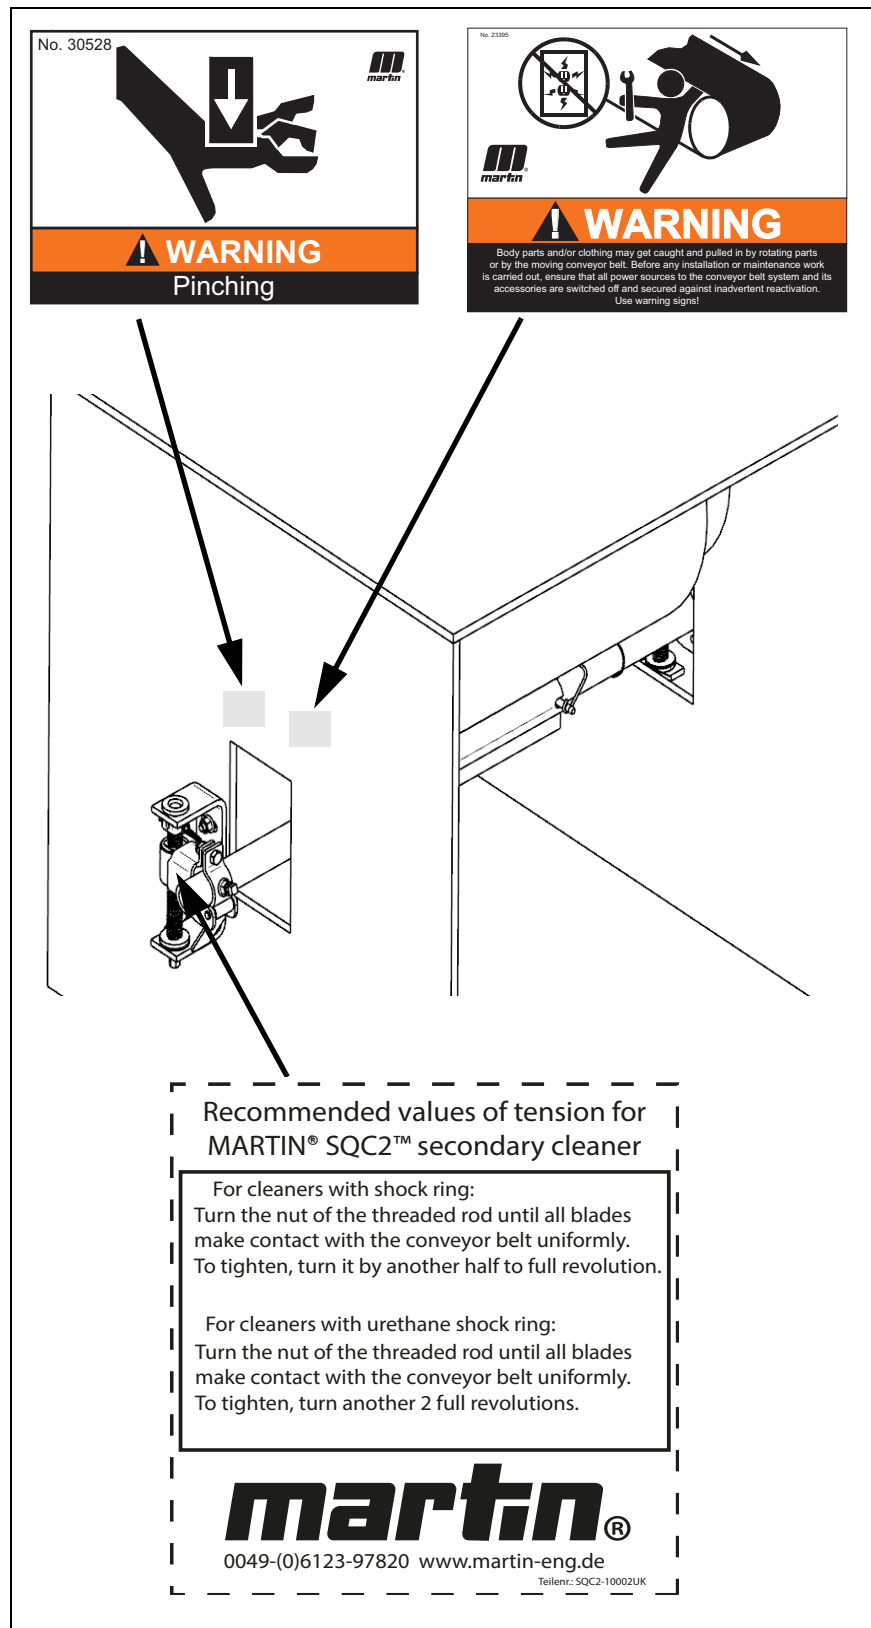

Fig. 27:
1. Thoroughly clean the external chute wall on the operator side above the tensioner. Affix Conveyor Products Warning Labels (Part No. 23395) on the chute wall where they can be seen by the system operator (also refer to Fig. 27 on page 34).